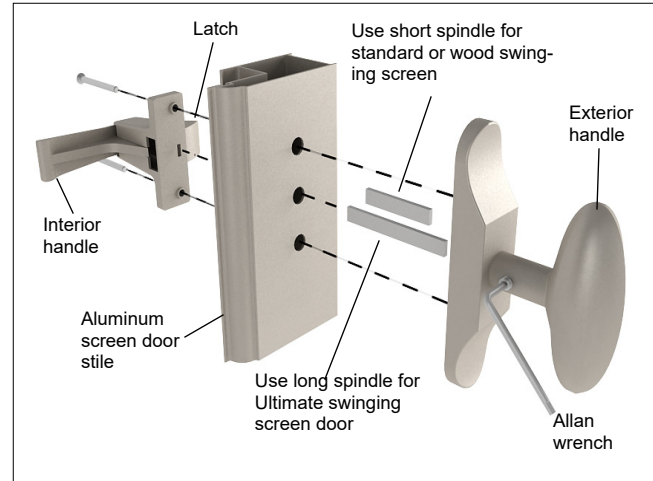

Figure 1
1. Assemble the exterior handle, handle shaft, and interior handle. Make sure the handle shaft properly engages both the inside and outside handle mechanisms. See figure 1.